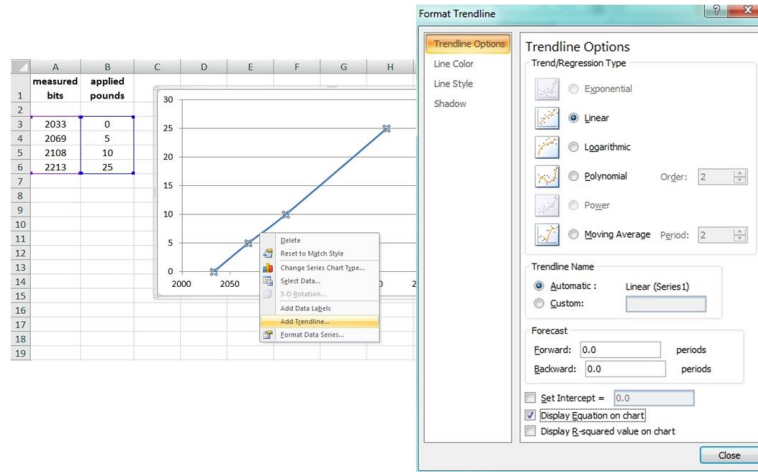

Figure 66 - Plot Trendline
- Designate the line as Linear, and check the option to Display the Equation on the chart (*Figure 66 - Plot Trendline*).